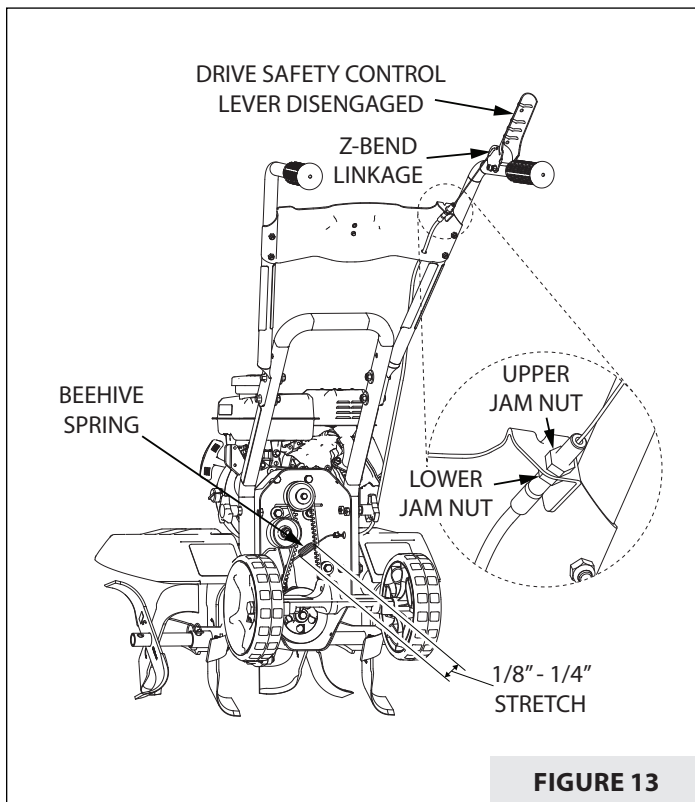

FIGURE 13
1. Loosen upper jam nut. **SEE FIGURE 13.**
3. Check adjustment by measuring the beehive spring extension when drive lever is engaged. (Proper spring extension is 1/8" - 1/4") **SEE FIGURE 13.**